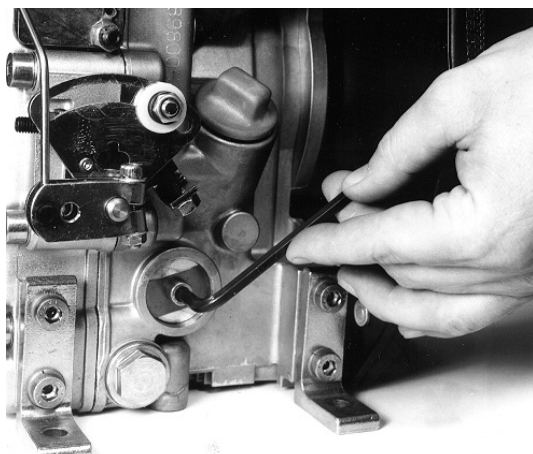
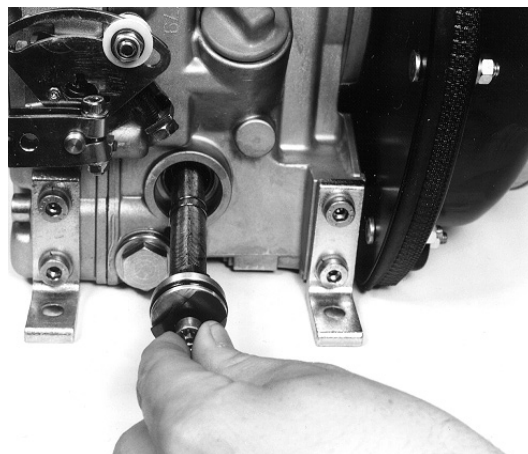

Fig 3-4 Unscrewing oil filter
Fig 3-5 Oil filter extraction
2. Use an Allen key to remove the filter (Fig 3-4) and extract it (Fig 3-5).